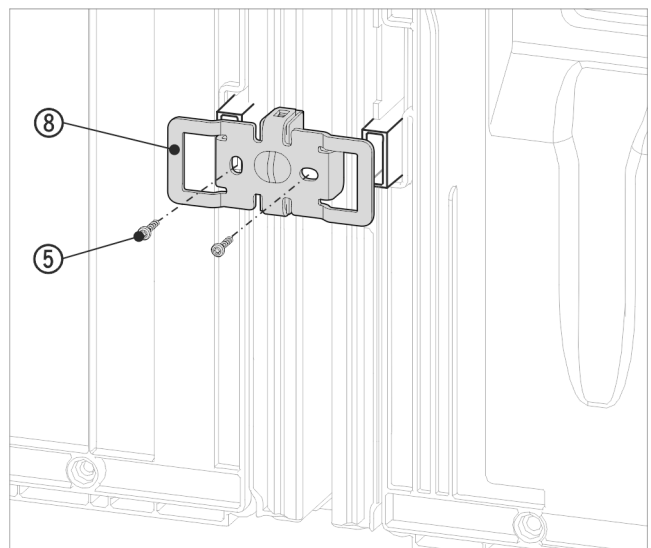

Fig. 17 Example illustration
- Slide the bracket Fig. 17 (8) on once more with the slots over the retainer for the wall spacers.
- Tighten firmly with 2 screws Fig. 17 (5).